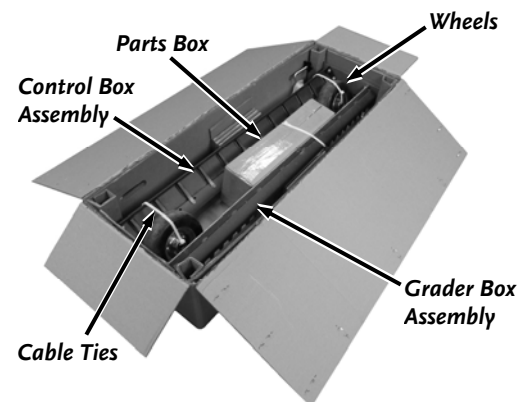

Figure 2
5. Cut the Cable Ties using the Wire Cutters and remove the Parts Box, Control Box Assembly and Wheels (**Figure 2**).